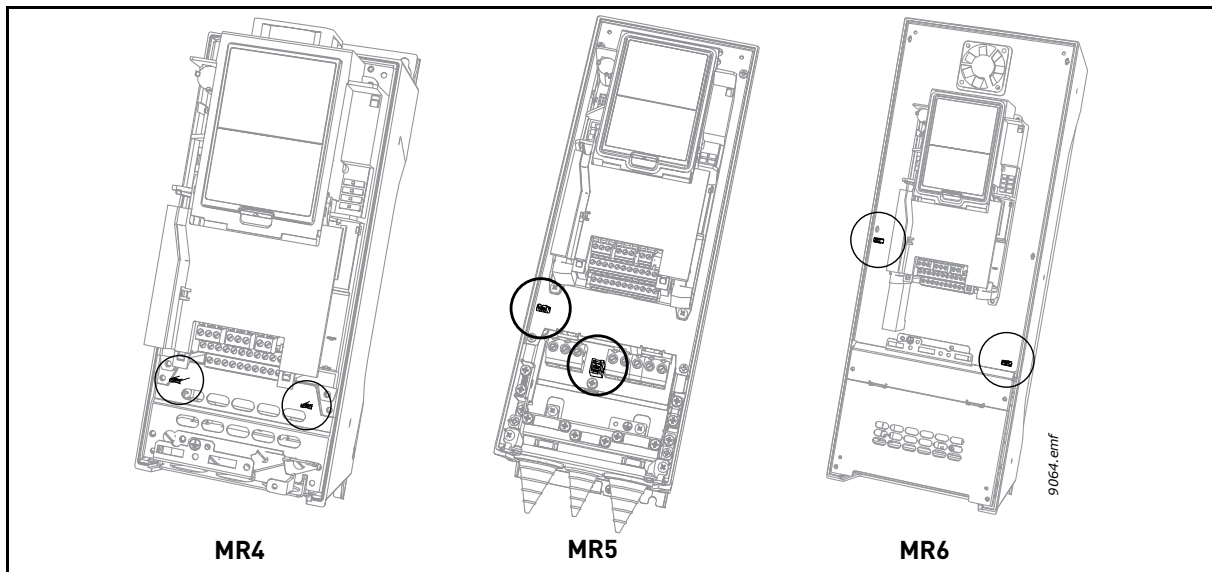
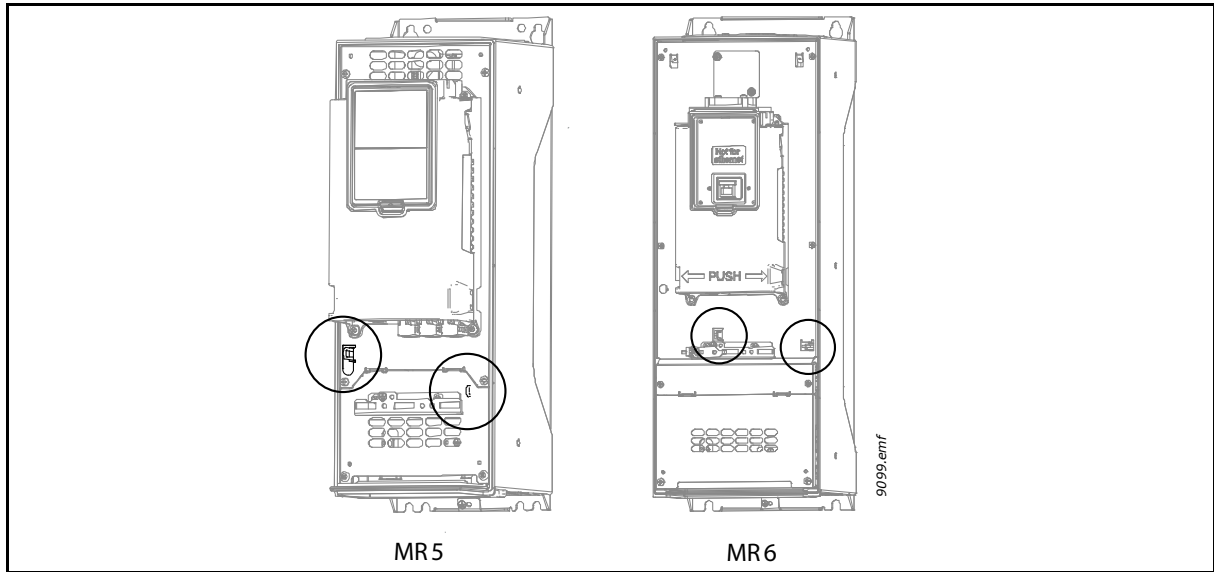

Figure 51. Current locations of the EMC-jumpers in frame MR4, old locations in frames MR5 and MR6
Figure 52. Current locations of the EMC-jumpers in frames MR5 and MR6
1	<p>Remove the main cover of the drive (see pages 28 and 34) and locate the jumpers connecting the built-in RFI-filters to ground. See Figure 51. and Figure 52.</p>
**NOTE:** The locations of the EMC-jumpers have changed in frames MR5 and MR6. Figure 51. shows the old locations and Figure 52. the new locations in frames MR5 and MR6.